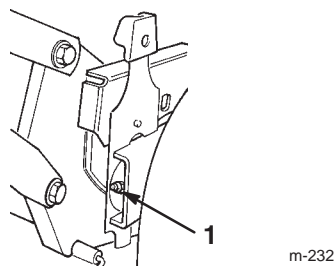

Figure 22
2. Wipe the grease fittings with a clean rag (Fig. 22).
3. Install a grease gun onto the fitting and gently apply two or three pumps of #2 multi-purpose lithium base grease (Fig. 22).